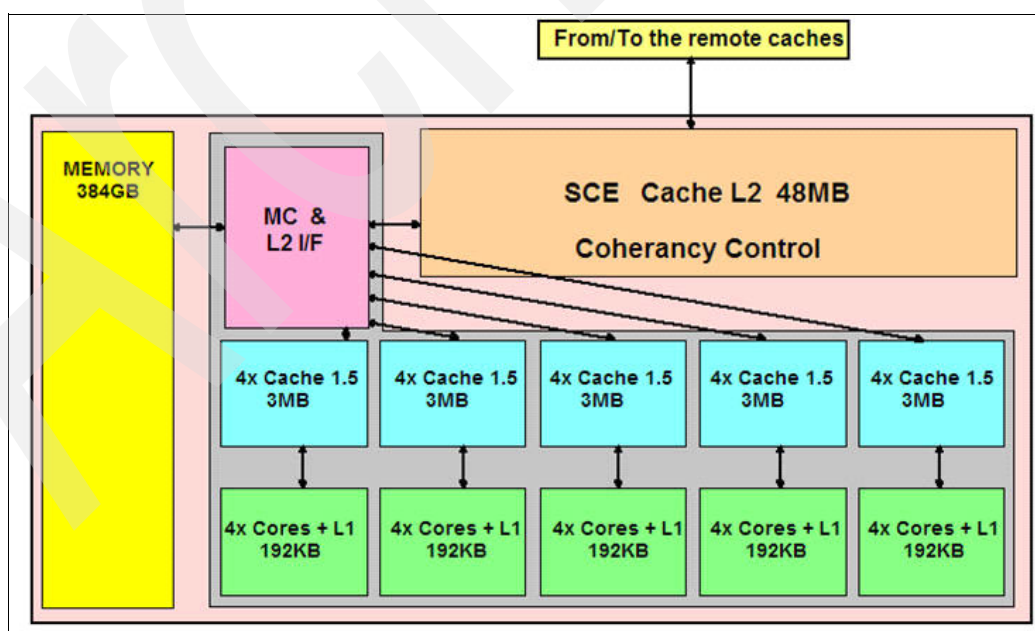

Figure 3-3 L1, L1.5, L2 and L3 cache levels
The next level of memory is the L1.5 cache that is also on each PU and is 3 MB in size. It is a store-through cache. The Level 1.5 cache is needed because in servers with reduced cycle times such as the z10 EC, the distance or latency between the processor and the shared cache (L2) is getting bigger measured in number of cycles needed go to the cache and get the data. The increase in latency is compensated by the insertion of an intermediate level cache reducing the traffic to and from the L2 cache. Memory levels are presented in Figure 3-3.
Access to main memory (L3) is controlled from four of the five microprocessor chips by their memory control (MC) function, shown in Figure 3-3 on page 60. Storage access is interleaved between the DIMMs, which tends to equalize storage activity across them.